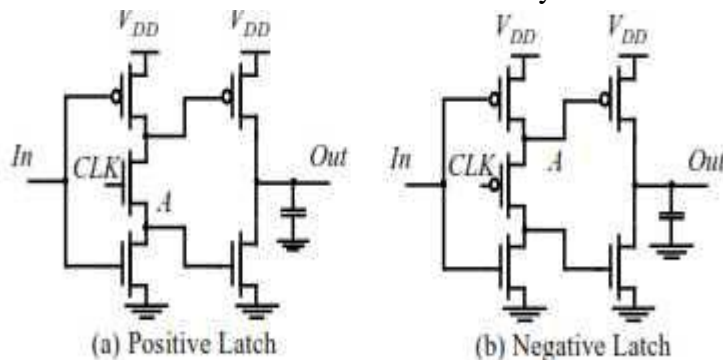

Figure 3.20 Simplified TSPC latch (also called split-output t).
- The TSPC latch circuits can be reduced, as in Figure 3.20, where only the first inverter is controlled by the clock.